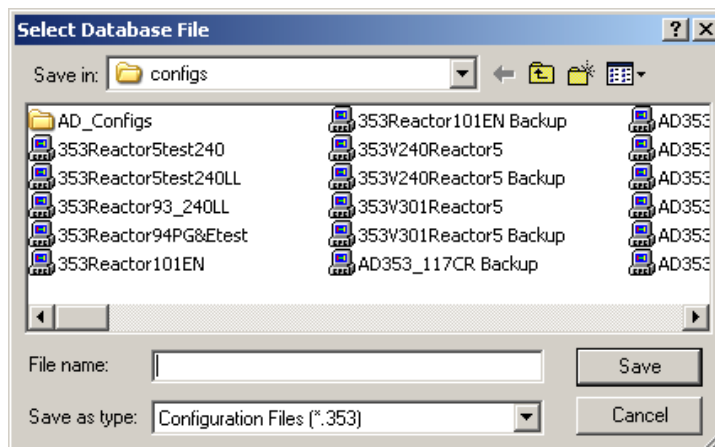

Figure 7-9 Select Database File dialog
1. Select **File > Save As**. The Select Database File dialog will display. See Figure 7-9.